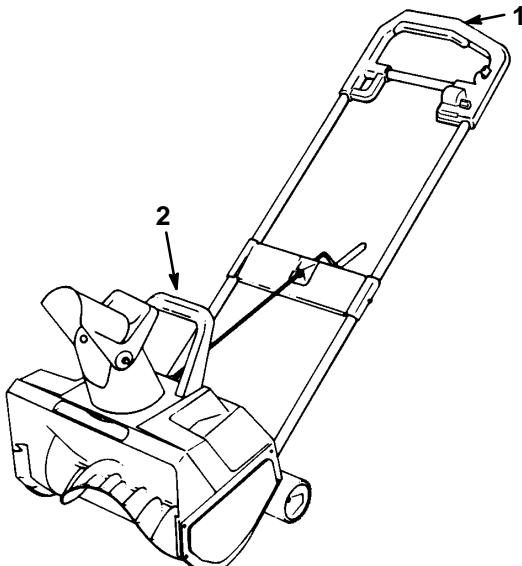

Figure 10
6. Shave down large banks of snow by placing the snowblower on the bank. Lift the snowblower by the primary and secondary handles only (Fig. 10). Let the unit's weight shave down the bank in a back and forth motion.
7. When clearing steps or deep drifts, hold the unit by the primary and secondary handles (Fig. 10) and use a swinging or sweeping motion.